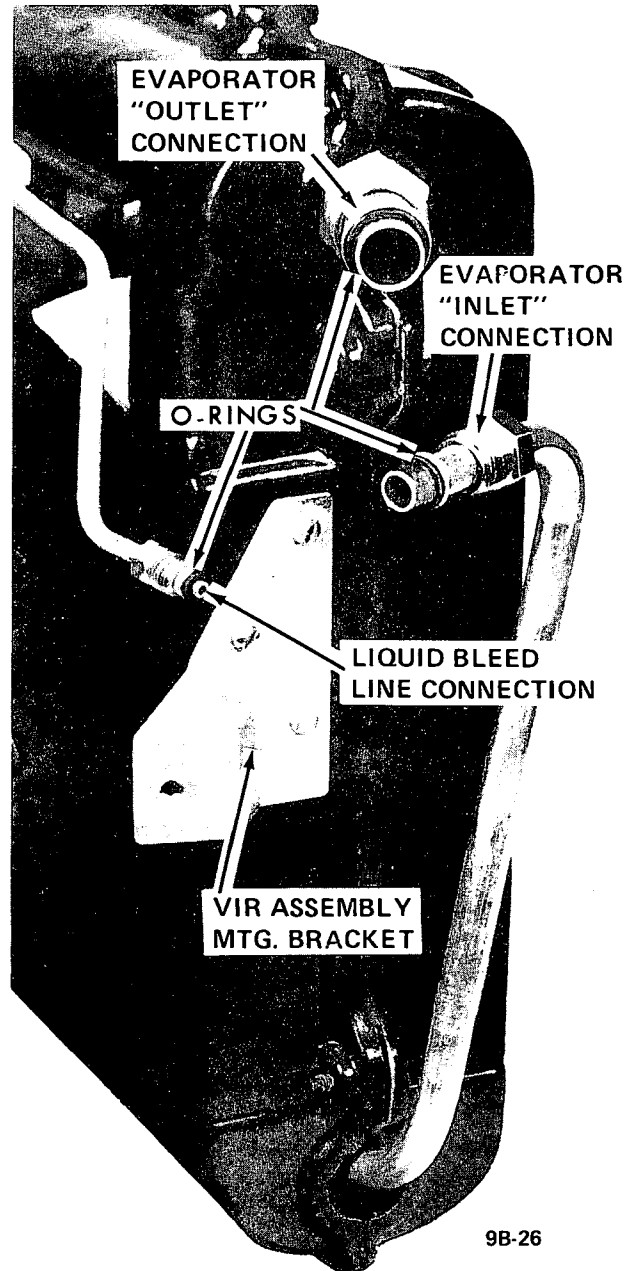

Figure 9B-15 Evaporator Connections to the VIR Assembly
5. Remove and discard all of the old line connection "O" rings. At this point the VIR assembly may be replaced by a complete VIR assembly or disassembled for the replacement of individual parts as required. An exploded view of the VIR and VIR EE assembly is shown in Figure 9B-14. Refer to Disassembly procedures and observe all warnings.
6. Lubricate all VIR assembly connection "O" rings liberally with refrigerant oil (525 Viscosity) and install the O-Rings on the connection tubes. When making all connections use care to prevent nicking the "O" rings and cross threading the connection threads. See Figure 9B-15.